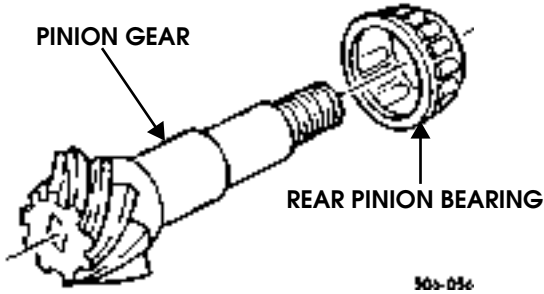

Figure 9-70: Pinion Bearing Removal
- 22. Remove rear pinion bearing from pinion gear (Figure 9-70).